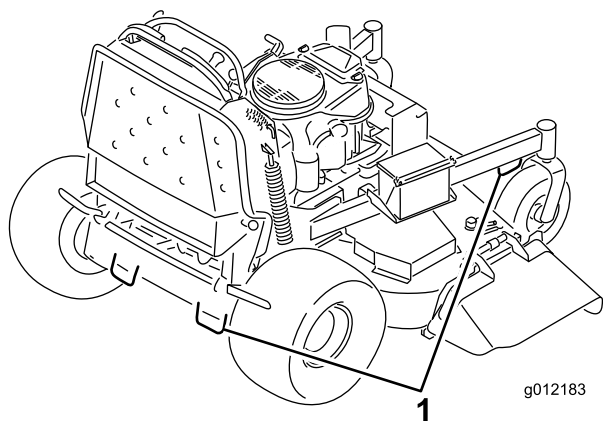

Figure 25
6. Use the metal tie-down loops on the machine to securely fasten the machine to the trailer or truck with straps, chains, cable, or ropes (Figure 25).